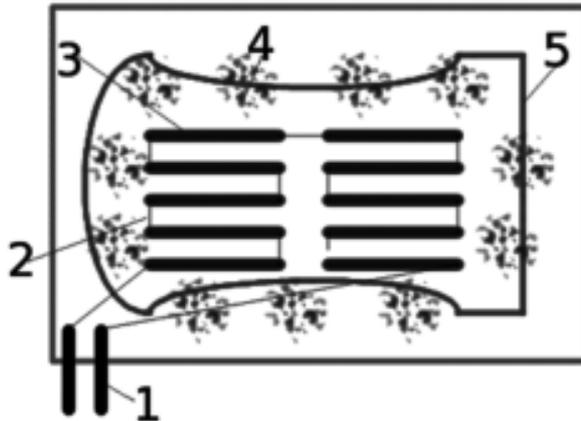

Fig. 8.6 - Bread toaster
Electric toaster as the name suggests is essentially a portable domestic appliance intended for toasting bread and is operated electrically. The bread is inserted in the toaster, heated at desired temperature till brown in color and a reasonable texture. That is the duration of the toasting period is predetermined by setting of built in control device. Fig. 8.6 shows the basic operation of a bread toaster.
**In Fig. 8.6,**